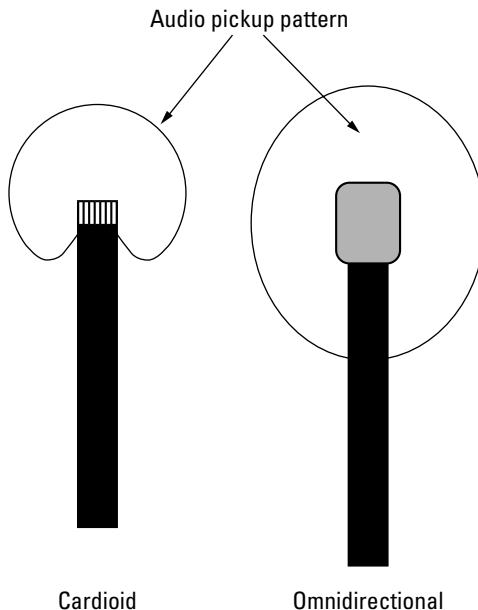

Figure 11-1:
- ✔ **Sound:** In addition to *seeing* video, you may want to *hear* what's happening. If so, select a camera with a built-in omnidirectional or directional microphone (mic). *Omnidirectional mics* pick up sound equally from all angles. *Directional mics* pick up sound within a defined cone-shaped area depending on what subtype you buy, the latter here picking up the narrowest area; see Figure 11-1: